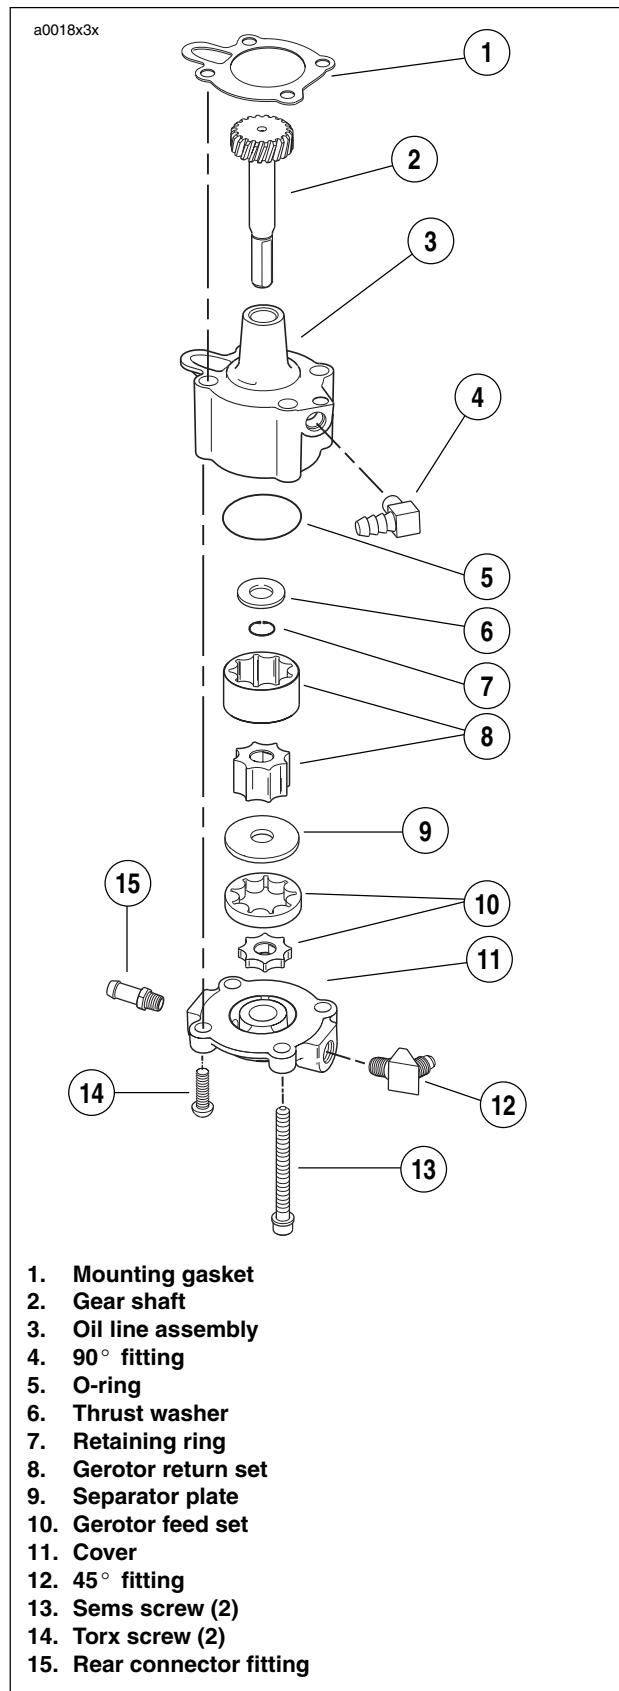

Figure 3-95. Oil Pump
See Figure 3-95. The oil pump consists of two gerotor gear sets, feed and return, housed in one pump body. The feed set distributes oil to the engine, the scavenge set returns oil to the tank/frame reservoir.
See Figure 3-95. Gravity-fed oil from the oil reservoir enters the pump through the feed hose connector. It is forced by the gerotor feed set through a hose to the oil filter. Return oil from the flywheel compartment is drawn back into the pump and is forced by the gerotor scavenge set back to the oil reservoir.
8. See Figure 3-95. Slide both pieces of gerotor feed set, separator plate and both pieces of gerotor scavenge set off gear shaft.